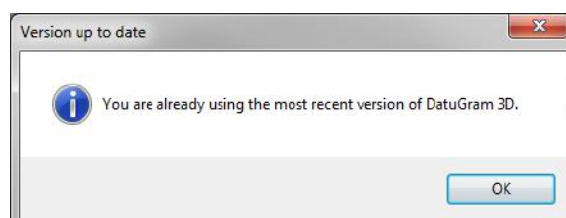

Figure 105: Version Up-to-Date Message
3. If the most recent version is installed, an appropriate notification is displayed (Figure 105).